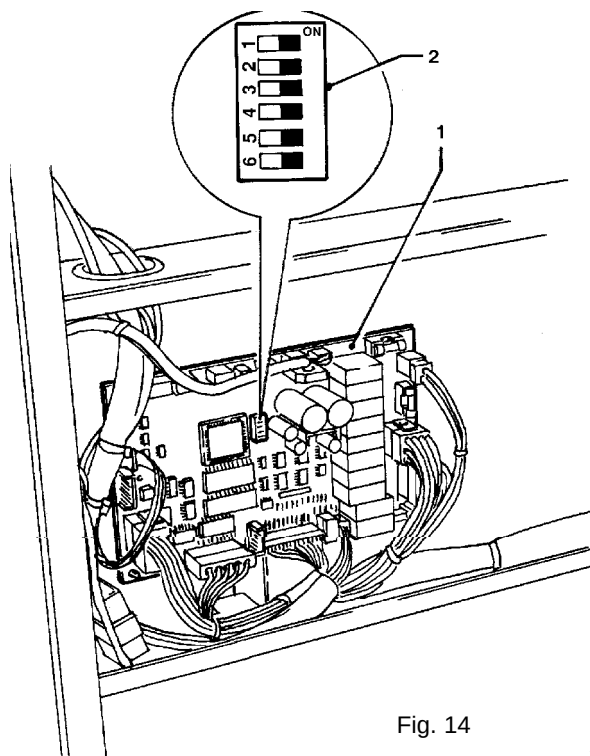

Fig. 14
- move minidip 6 on the control card (see Fig. 14) to position ON.